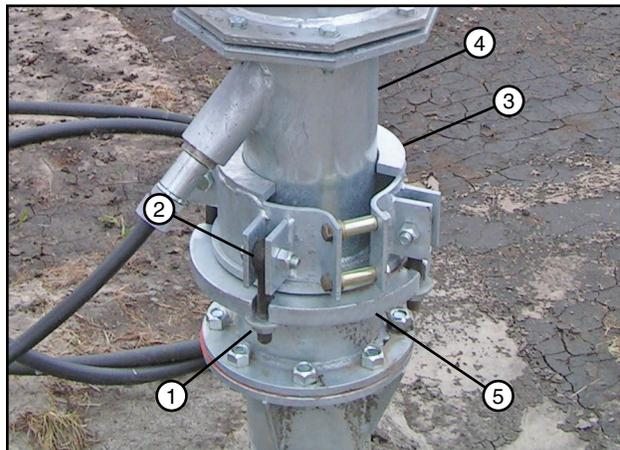

Figure 34-2 1. Hex Nut 4. Receiver Tube
15. Loosen the hex nut on each of the four rod ends on the anchor clamp. See figure 34-2.